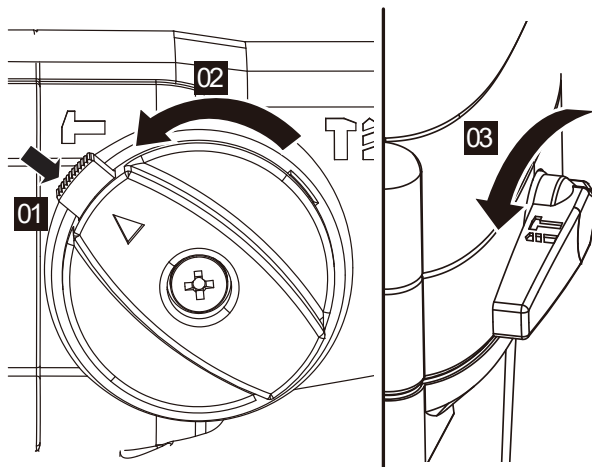

Figure 8
5. CHISEL FUNCTION (SEE FIG. 8)